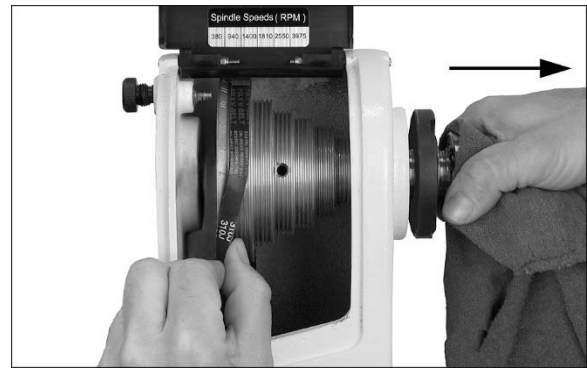

Figure 11-4
9. Continue pulling spindle toward tailstock until it clears left hole in headstock and offers enough room to remove belt (Figure 11-4).